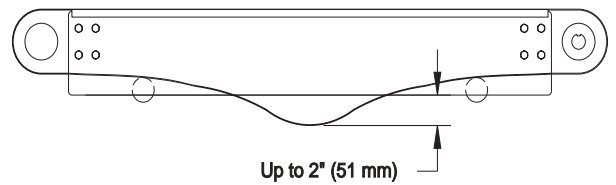

Figure 31
4. Check belt sag by measuring from the bottom of conveyor frame (**Figure 31**). Belt sag should not exceed 2" (51 mm).